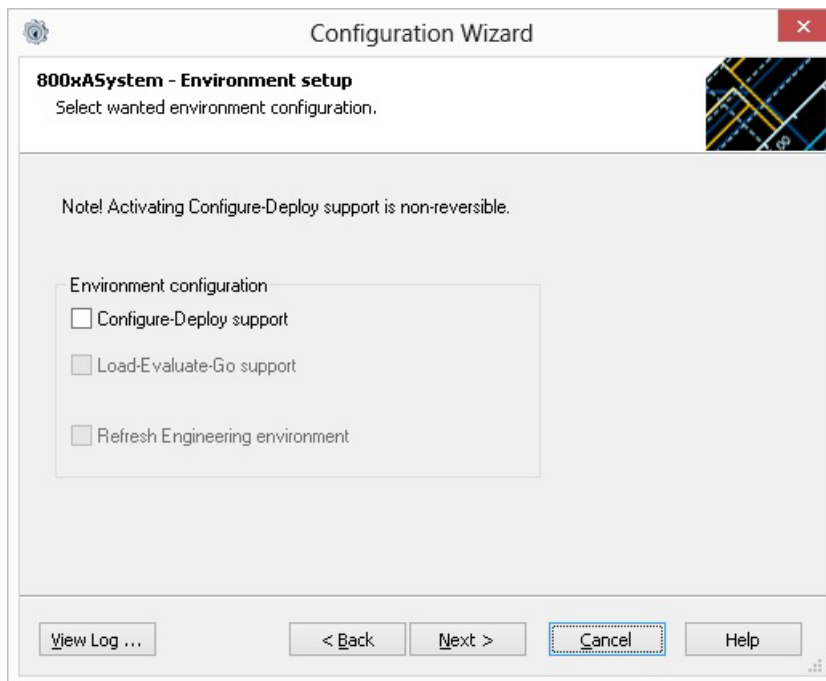

Figure 29. Environment Setup Dialog Box
2. Select the **Environment support** check box if you want to enable version handling. This action is non-reversible. See Figure 29.